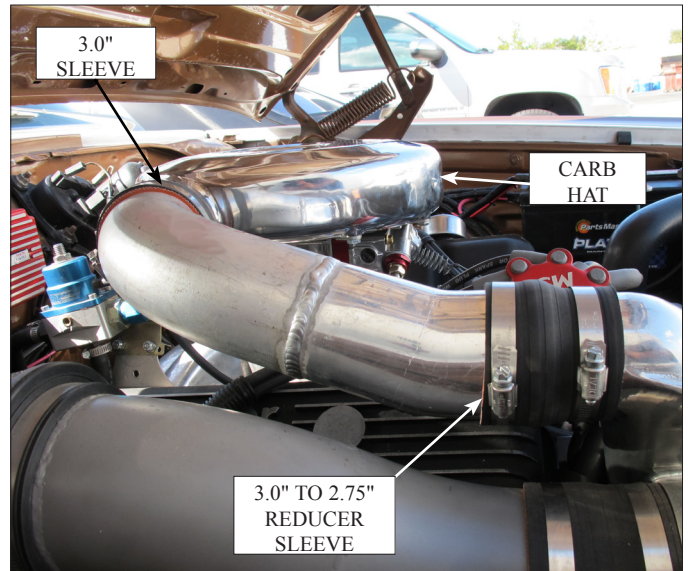

Fig. 9-a
Refer to Fig. 9-a for the following steps.
- B. Using the supplied #44 clamp, attach the 2.75" x 3.0" reducer sleeve to the S/C discharge. (See Fig. 9-a.).